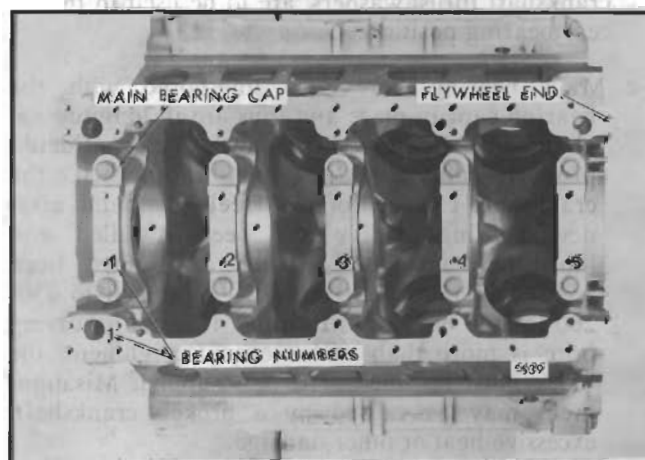

Fig. 6 - Cylinder Block Markings
NOTE: Bearing caps are numbered to correspond with their respective positions in the cylinder block. It is imperative that the bearing caps are reinstalled in their original positions to maintain the main bearing bore alignment. The number of the front main bearing cap is also stamped on the face of the oil pan mounting flange of the cylinder block, adjacent to its permanent location in the engine as established at the time of manufacture. The No. 1 main bearing cap is always located at the end opposite the flywheel end of the cylinder block (Fig. 6).
2. If a new service replacement block is used, stamp the engine serial number and model number on the right-hand side of the cylinder block. Also stamp the position numbers on the main bearing caps (Fig. 6) and the position of the No. 1 bearing on the oil pan mounting flange of the block.